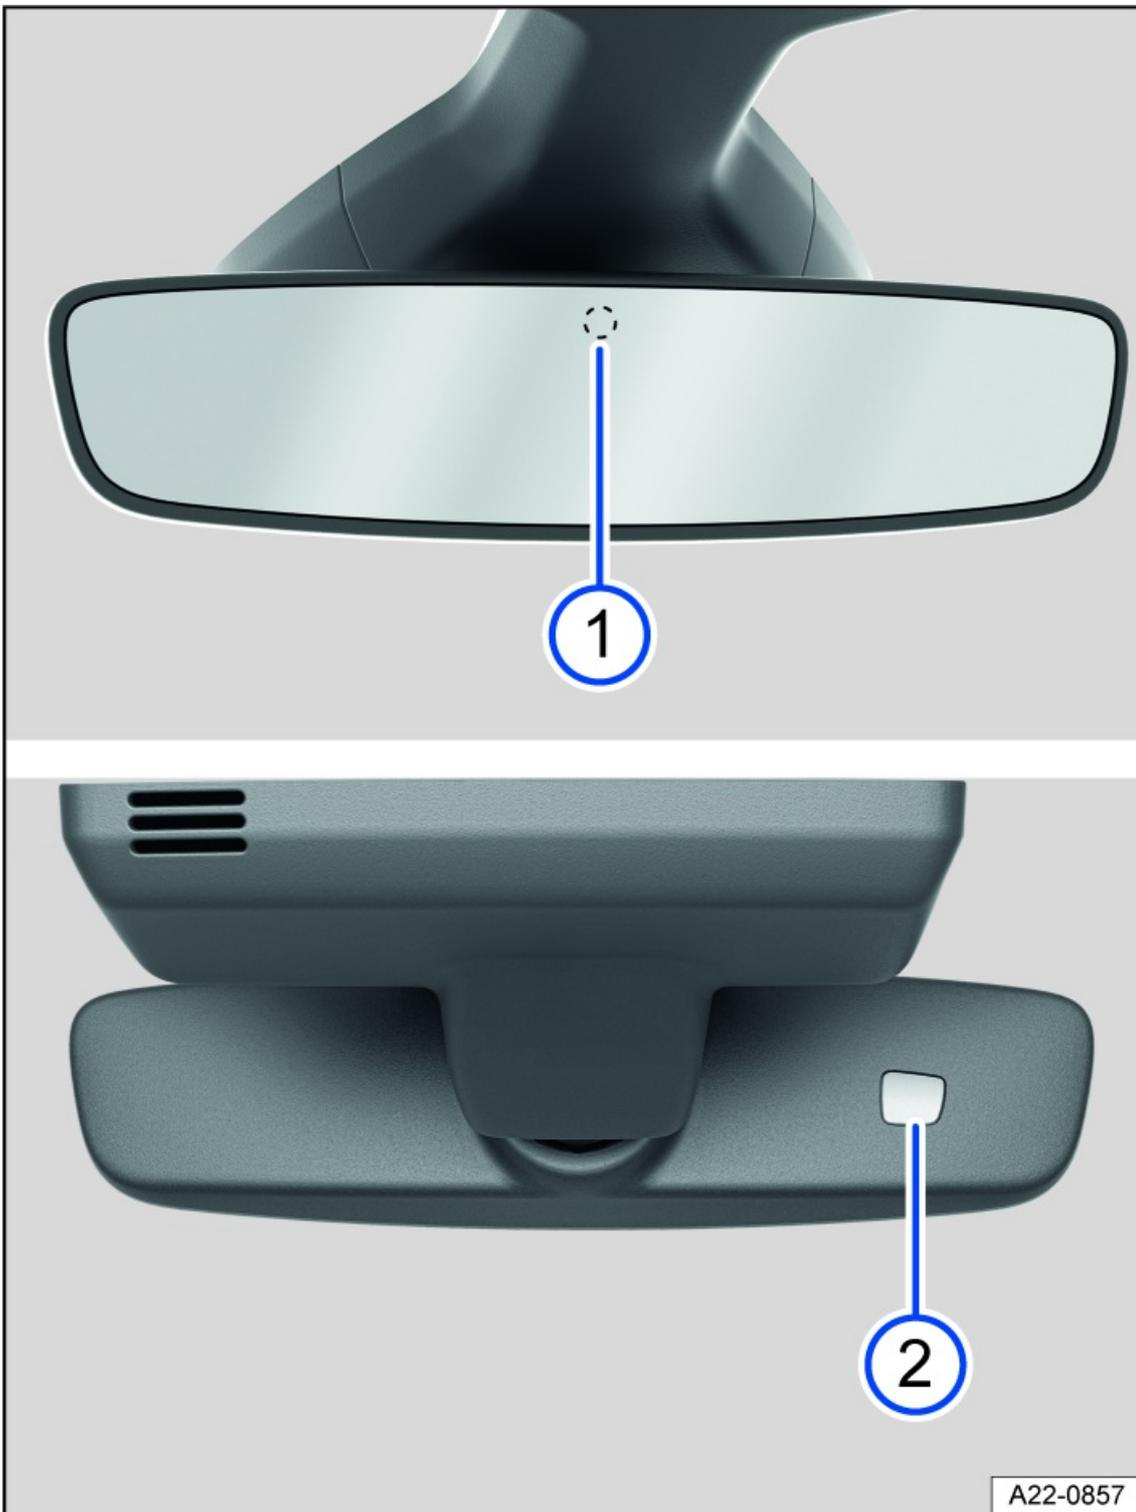

Fig. 83 On the windshield: automatic dimming interior rearview mirror.
When the ignition is on, the sensors measure the amount of light entering from the rear fig. 83 ① and from the front ②.